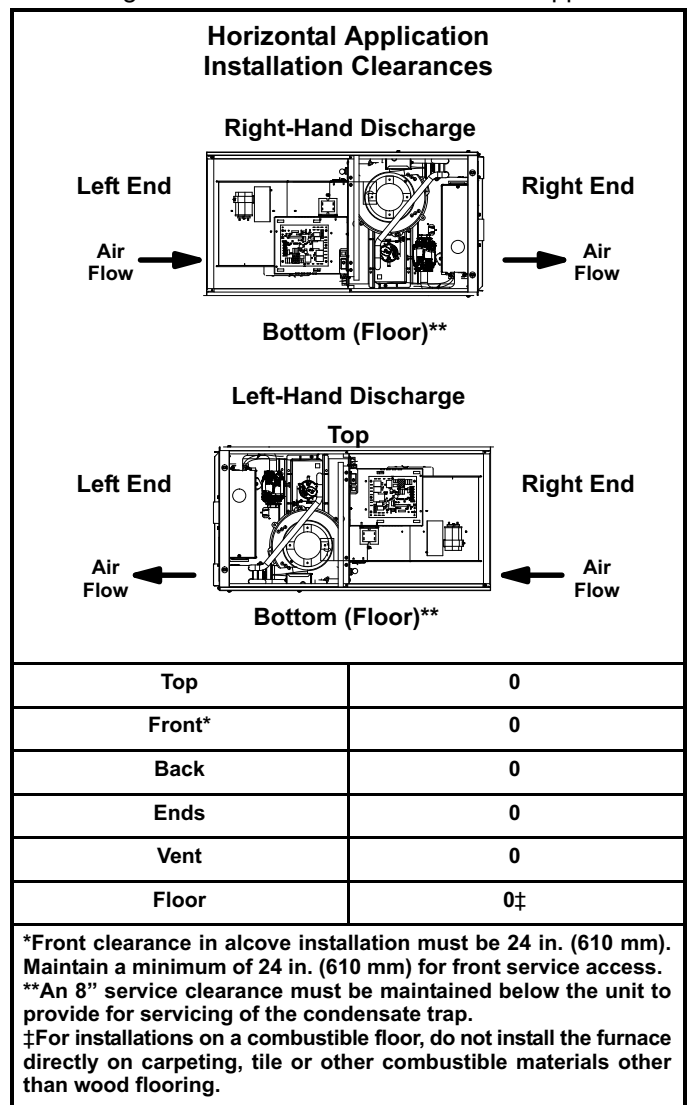

FIGURE 18
Refer to figure 18 for clearances in horizontal applications.
- 1 - Select location for unit keeping in mind service and other necessary clearances. See figure 18.